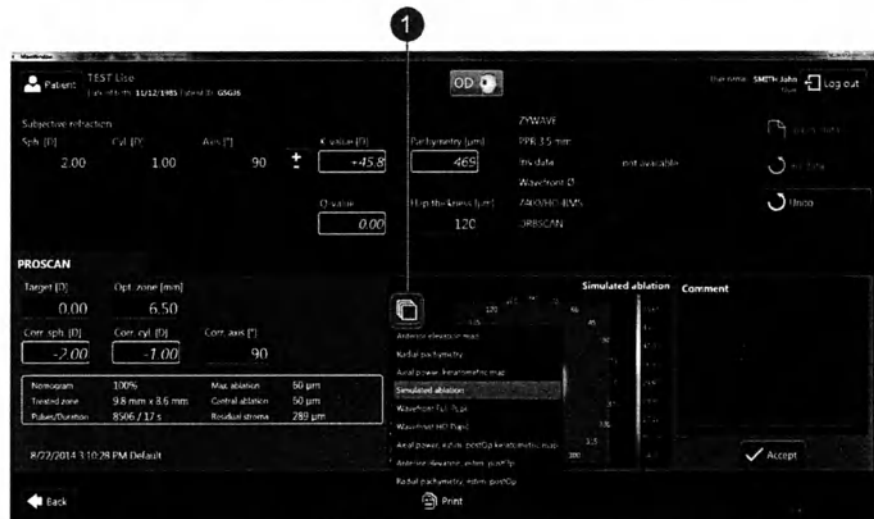

Fig. 116: Detailed maps icon
14. To verify the calculated correction values, click the maps icon for detailed maps (Fig. 116/1).